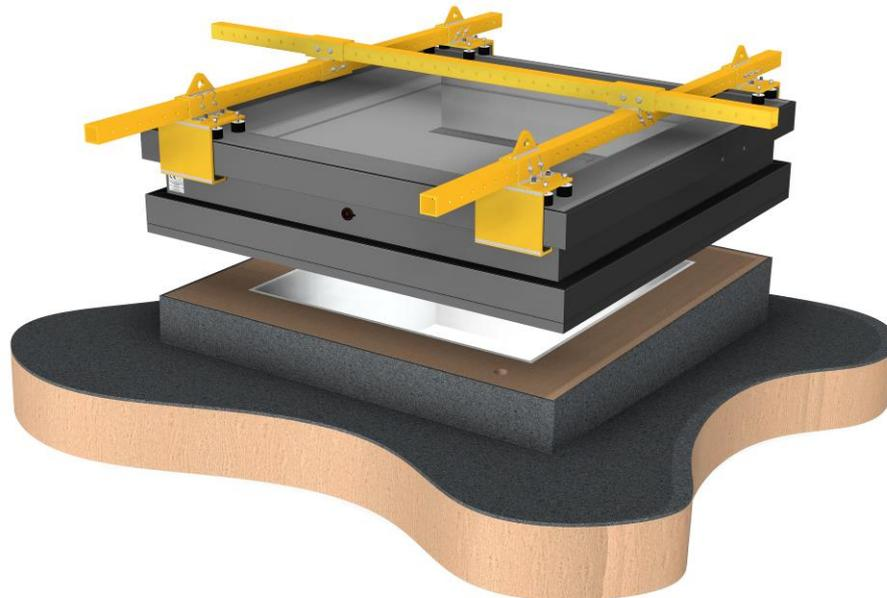

Figure 4 - Lifting arrangement
5. Lower unit to kerb leaving head room to access all areas of the rooflight (*Figure 4*).